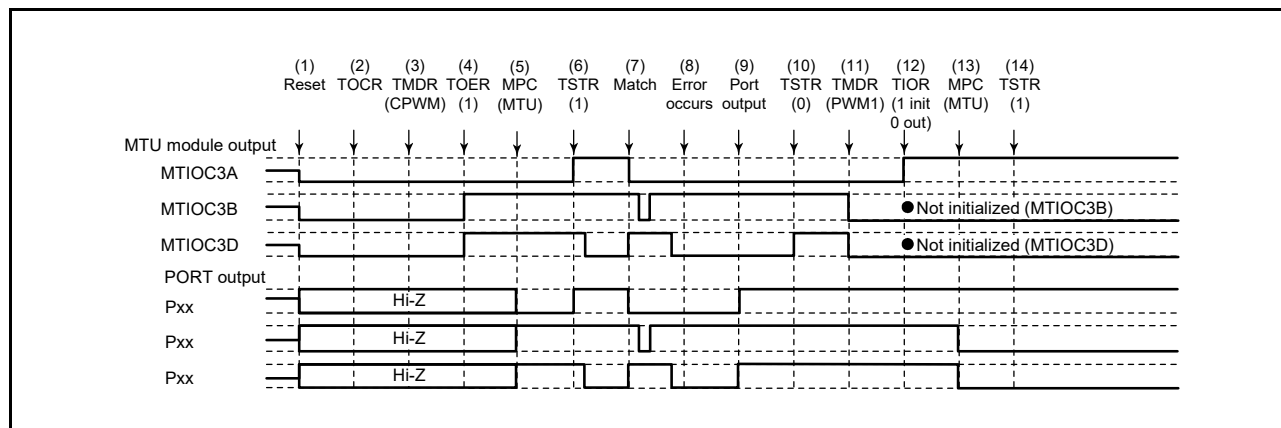

**Figure 24.174 Error Occurrence in Complementary PWM Mode, Recovery in Normal Mode**
Figure 24.174 shows a case in which an error occurs in complementary PWM mode and operation is restarted in normal mode after re-setting.
(1) to (10) are the same as in Figure 24.174.
(11) Set PWM mode 1 (MTU output goes low).
- (1) to (10) are the same as in Figure 24.174.
- (11) Set normal mode and make new settings (MTU output goes low).
- (12) Disable output in MTU3 and MTU4 (MTU6 and MTU7) with the TOERA (TOERB) register.
- (13) Select the complementary PWM output level and enable or disable cyclic output with registers TOCR1A and TOCR2A (TOCR1B and TOCR2B).
- (14) Set complementary PWM mode.
- (15) Enable output in MTU3 and MTU4 (MTU6 and MTU7) with the TOERA (TOERB) register.
- (16) Set MTU output using the MPC and port mode registers (PMR) corresponding to the I/O ports.
- (17) Restart operation by setting the TSTR (TSTRB) register.
- (11) Set normal mode (MTU output goes low).
- (13) Select the reset-synchronized PWM output level and enable or disable cyclic output with registers TOCR1A and TOCR2A (TOCR1B and TOCR2B).
- (14) Set reset-synchronized PWM mode.